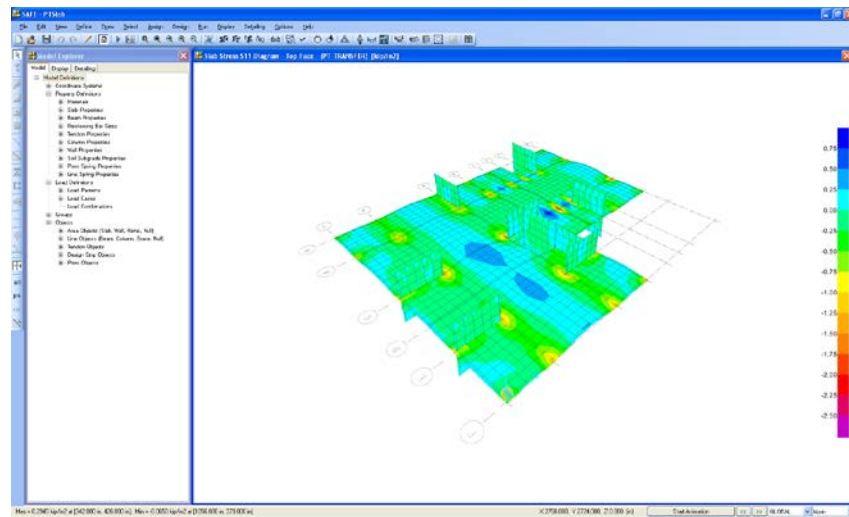

Figure 89 S11 Stress Diagram
- N. Click the **OK** button to generate the stress diagram shown in Figure 89.